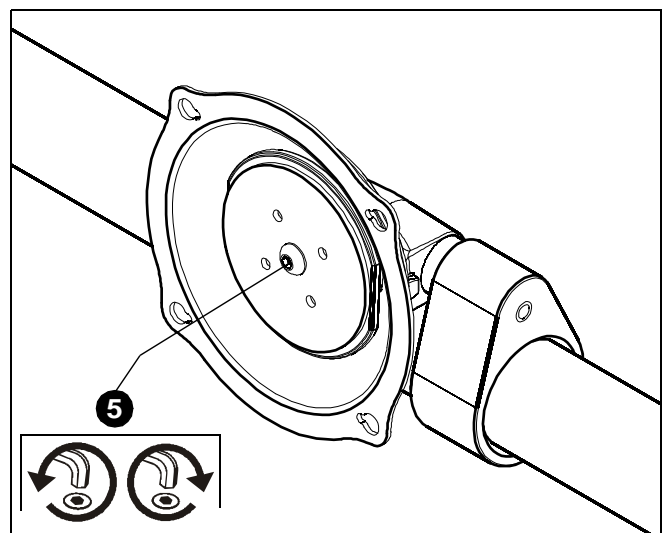

Figure 6
5. Using a hex head wrench turn the tension adjustment screw clockwise to increase tension, or counter-clockwise to decrease tension. (See Figure 6)